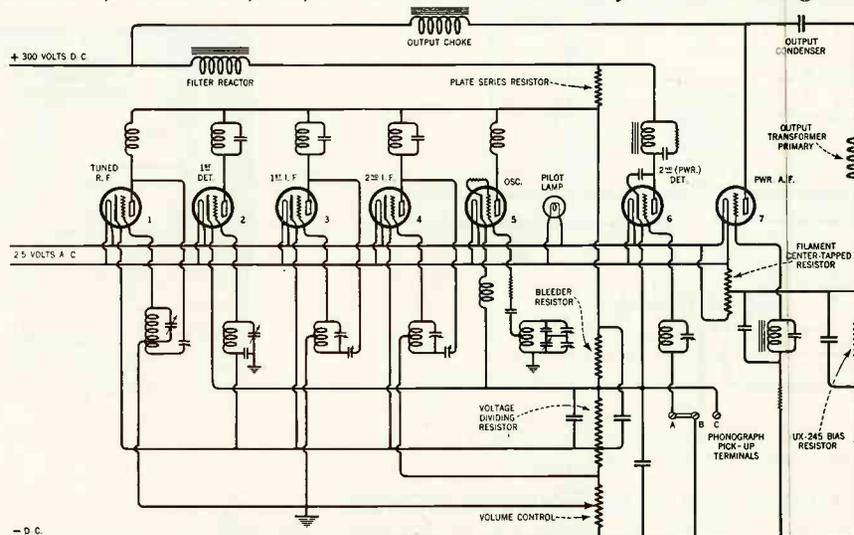
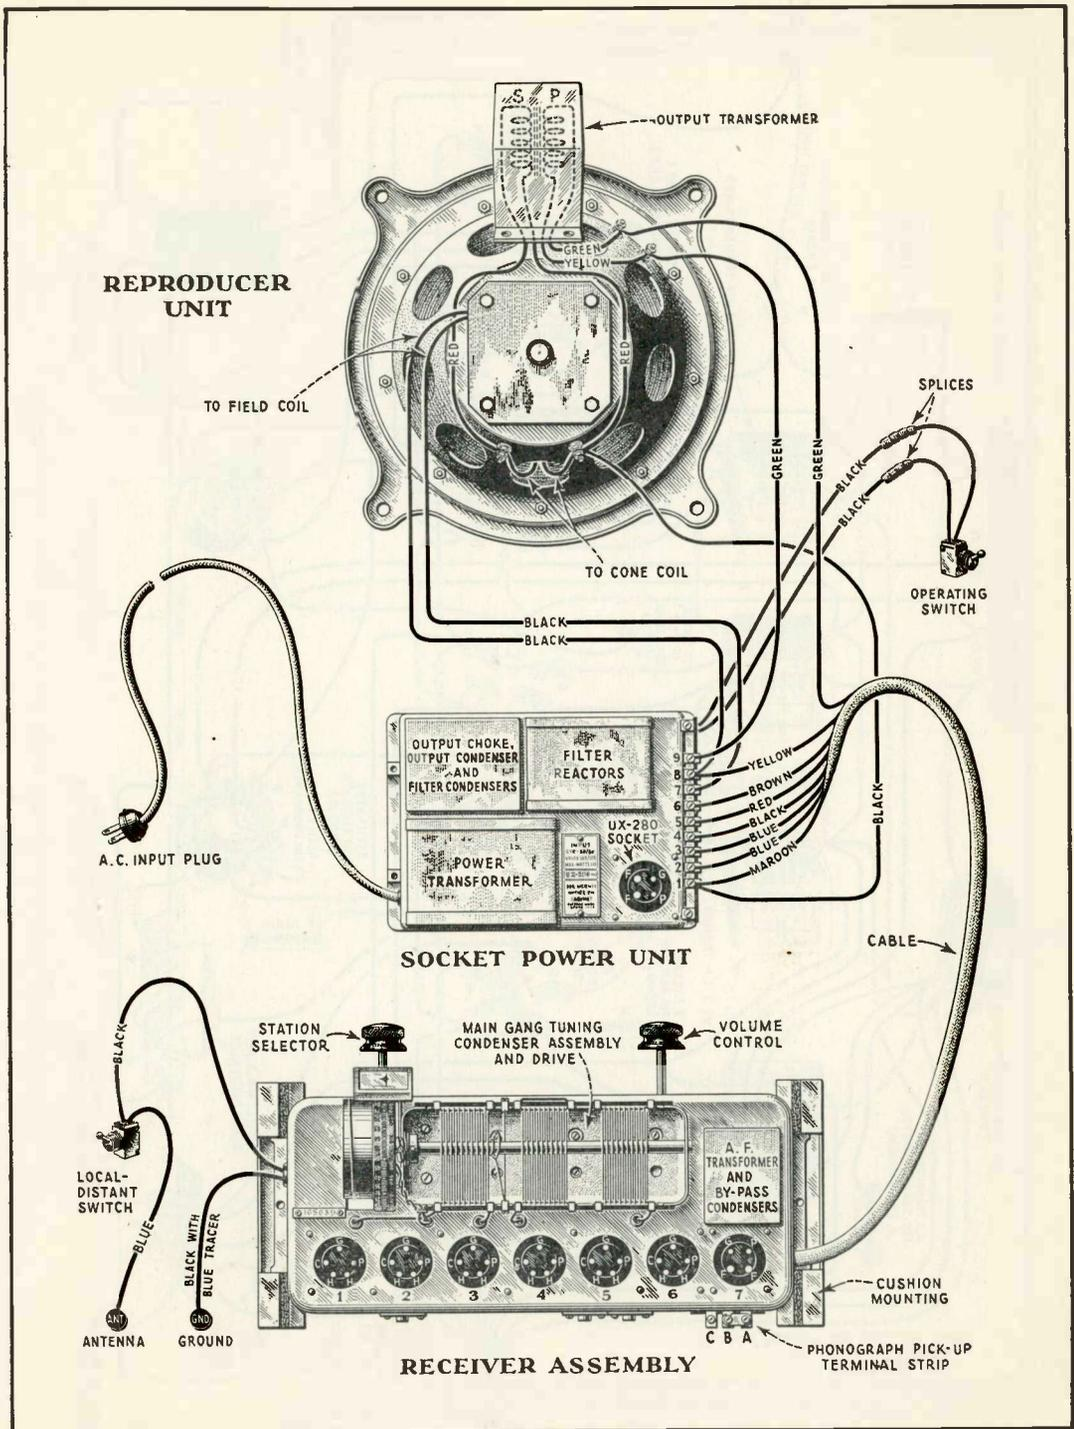

Figure 19—Schematic circuit diagram of the voltage supply system
Figure 22—Cable connections, socket contacts, reproducer unit, socket power unit and receiver assembly
With the test oscillator shown, the two red output leads of the receiver chassis that normally go from the secondary of the output transformer to the cone coil (See Figure 22) should be removed and connected to the output or meter terminals of the oscillator with the clips provided and meter switch thrown to dynamic ("Dyn") position. If the test oscillator is not used, a 0-5 D.C. milliammeter or a 0-2 D.C. milliammeter with 15,000 ohms in series should be connected in series with the brown lead that connects to lug No. 6 (See Figure 22) on the terminal strip. This places the meter in series with the plate supply of the second detector and serves as a very good resonance indicator, as does also the other mentioned method. The speaker cone coil may be connected at any or all the time if the connection assists in any way in tuning to the modulated output of the test oscillator.
The output transformer also can be tested for continuity by applying methods as outlined in Part III, Sections 4 and 7. The connections for the above parts of the reproducer assembly are clearly shown in Figure 22.
Figure 19 shows the method of obtaining the plate, grid, cathode and heater voltages and the high voltage field current from the main source. However, in order to give the service man a complete continuity picture of the voltage circuits it is not abridged, but drawn actually as it is found in the receiver, so that the tracing of voltages and currents is actually done, through the various component parts affected, as shown schematically in a straight line manner.
The following voltages taken at each Radiotron socket with the receiver in operating condition should prove of value when checking with test sets such as the Weston Model 537, Type 2, or others giving similar readings. The plate currents shown are not necessarily accurate for each tube, as the cable in the test set will cause some circuits to oscillate, due to its added capacity. Small variations of voltages will be caused by different tubes and line voltages. Therefore the following values must be taken as approximately those that will be found under varying conditions. The numbers in column 1 indicate the tube socket numbers shown in Figure 22.
A pair of headphones with at least $4\frac{1}{2}$ volts in series, or preferably a voltmeter with sufficient voltage to give a full scale deflection when connected across the battery terminals should be used in making these tests, for example, a 0-50 volt meter with a 45 volt "B" battery. The receiver Radiotron socket contacts, numbers and lugs used in these tests are shown in Figure 22. The receiver continuity wiring diagram is illustrated in Figure 23. The S.P.U. terminal numbers are shown in Figures 6 and 24. The voltage supply schematic (Figure 19) will also be a help in studying continuity.
Remove all Radiotrons and disconnect cable at terminal strip. Remove all ground connections. Remove pilot lamp. See Figure 22 for cable lugs, terminals, and Radiotron socket contacts. For convenience coloring of lugs as well as numbers are shown. Code—Maroon (M), Black (Bla), Blue (Blu), Red (R), Brown (Br), Yellow (Y), Green (G).